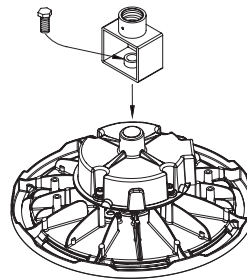

FIG. 5
- Install the adapter (sold separately) and secure it to the driver using a screw (included with the adapter). (Fig. 5)